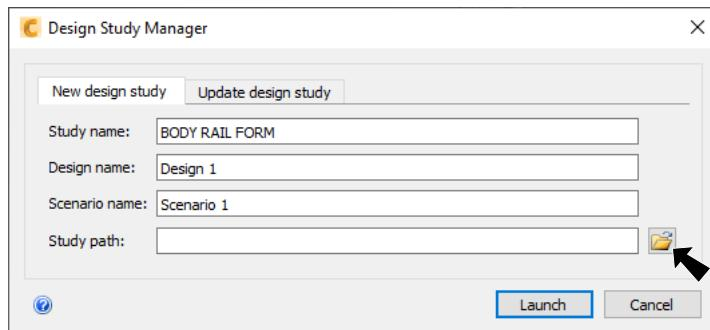

Fig. 22
Step 2. In the Design Study Manager dialog box click the **Path**  icon, **Fig. 22**. Select a folder to save CFD files. Back in the Design Study Manager dialog box, click **Launch**.